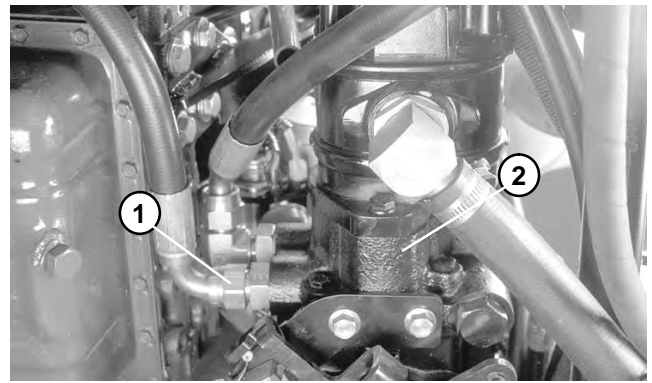

Figure 25
1. Disconnect hose from the lower hydraulic fitting on the bottom of the hydrostat (Fig. 25).